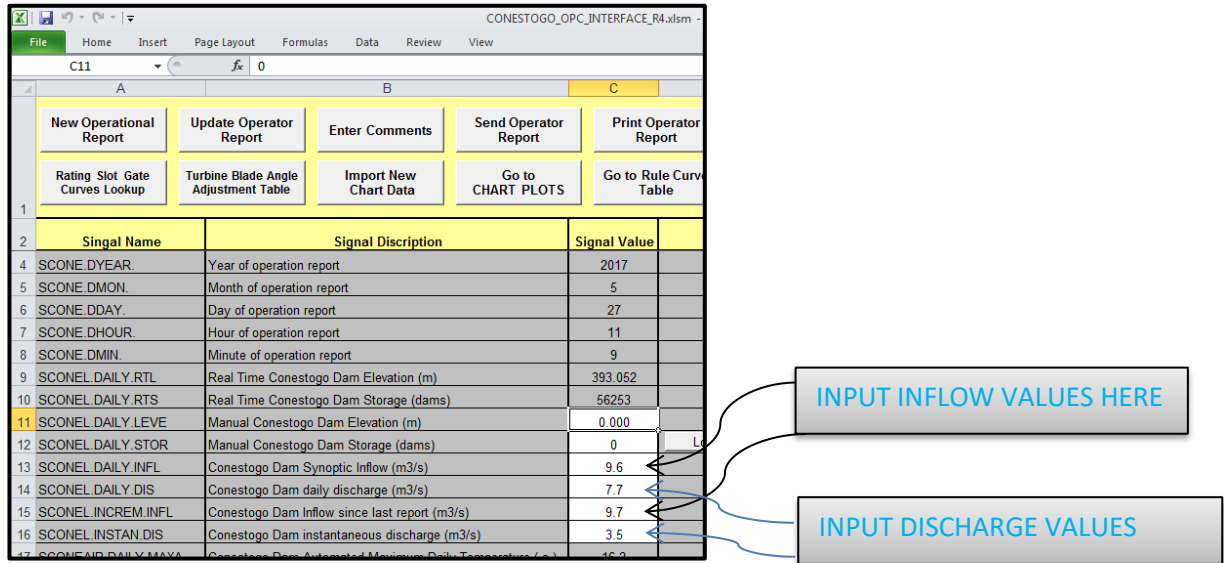

Fig 7
- Once the discharge value has been obtained and it has not changed since the last report, input the value into the spreadsheet on **Line 14 and 16** (Fig 7).
- However, if the discharge has changed since the last daily morning report, the calculated average discharge value must be inputted in the “daily discharge” (average discharge) on “**Line 14**” of the spreadsheet. The “current discharge” (instantaneous discharge) has to be inputted in “**Line 16**” of the spreadsheet (Fig 7).
- Input the calculated inflow value in “**Lines 13 and 15**” of the spreadsheet and write it in the daily log beside “**IN**” (Fig 7 & 8).